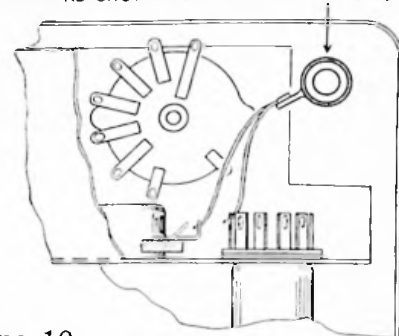

Figure 10
(✓) Connect a 5000 Ω 20 watt resistor between pin 7 (S) (3) on the 6CL6 socket and lug 2 (S) (2) on the oscillator control. Leave the leads fairly long and dress as shown in Figure 10.